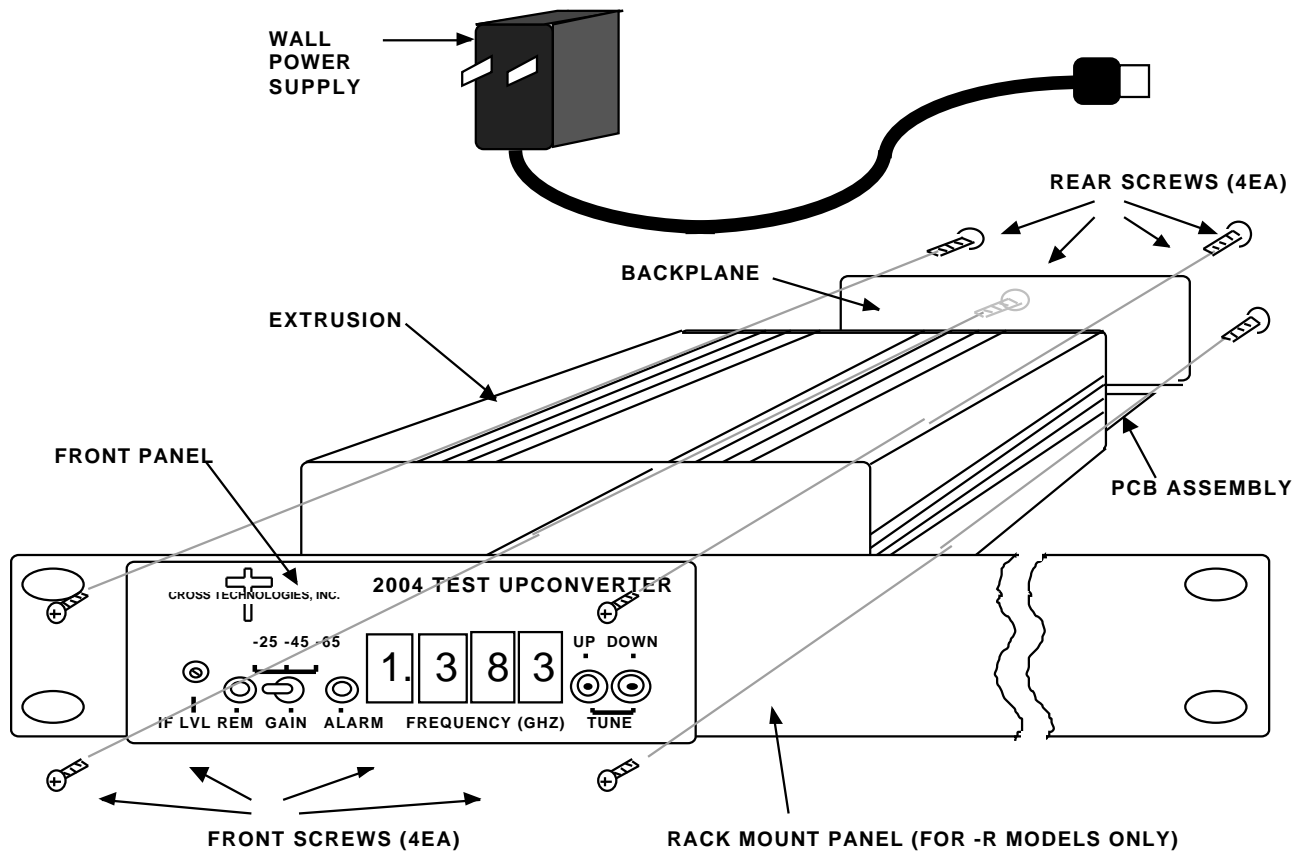
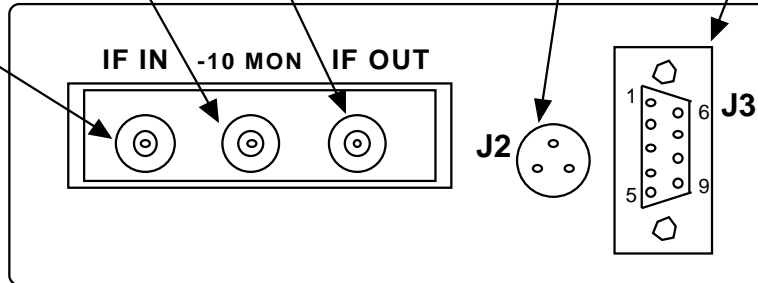

FIGURE 2.1 SERIES 2000 ASSEMBLY DRAWING
FIGURE 2.3 2007 Inputs and Outputs
2.1 Mechanical - The 2007 is packaged in an aluminum extrusion. The 2007R is mounted on a 1 3/4" X 19" panel that can be mounted to a rack using the 4 holes at the ends. The 2007 and 2007R derive $\pm 15V$ from a wall power supply. See Figure 2.1.
2.3 Input / Output Signals - Figure 2.3 shows the input and output signals to the 2007.
- 1.) Remove four (4) **rear panel screws** (see Figure 2.1).
- 2.) Connect the wall power supply to the 2007 and the wall power supply to 115 VAC, 60 Hz (Figure 2.1)
- 3.) Connect a -20.0 dBm 70 MHz signal to 70 MHz SIGNAL IN (Figure 2.1, Figure 2.3)
The remote control program sends commands to the 2007 through pin 3 of the DB9 connector, J3 (Figure 2.3). Pin 3 is an RS-232 serial port set to accept 8N1 formatted data. Each command sent to the 2007 consists of an instruction byte followed by one or two bytes of data. The 2007 acknowledges receiving and successfully executing each remote control command by sending an **acknowledge byte** (2400 baud, 8N1 format) through pin 2 of the DB9 connector, J3.